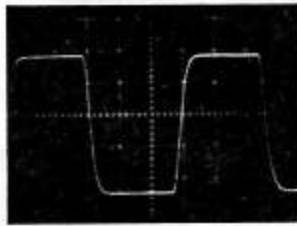

Fig 7.
- Fig 7. 10kHz squarewave, 8Ω@ 2μF Damping factor medium